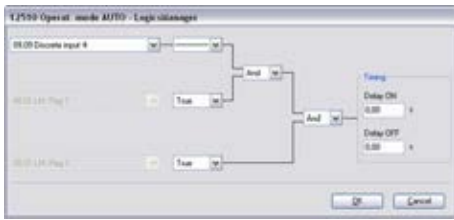

Fig. 156: LogicsManager function "Operat. mode AUTO"
- ➔ The LogicsManager function "Operat. mode AUTO" (parameter 12510 ↪ p. 253) can be configured as shown in (Fig. 156).